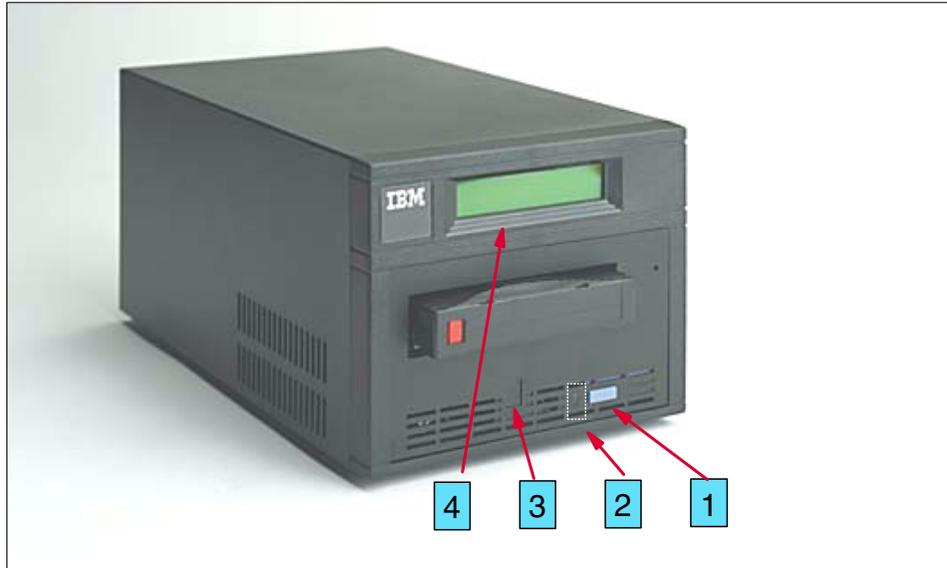

Figure 4-3 Front view of the IBM 3580 tape drive
The status light (labeled 2 in Figure 4-3 on page 90) provides information about the state of the IBM 3580 tape drive. The light can be green or amber, and, when lit, solid or flashing. These are the possible conditions of the status light and an explanation of what each condition means:
- ▶ Off: The IBM 3580 tape drive has no power, or is powered off, or if C displays simultaneously in the single-character display (see label 3 in Figure 4-3 on page 90), it needs cleaning.
The message display (labeled 4 in Figure 4-3 on page 90) is a liquid crystal display (LCD) that provides information about the status of the tape drive and error conditions.
The IBM 3580 tape drive features a light-emitting diode (LED) display (labeled 3 in Figure 4-3 on page 90 below). The LED presents a single-character code for:
The unload push button (labeled 1 in Figure 4-3) enables you to perform several functions. You can:
The IBM 3580 needs cleaning when the IBM 3580 tape drive status light (label 2 in Figure 4-3 on page 90) is OFF and C displays simultaneously in the single-character display (label 3 in Figure 4-3 on page 90). This is the only occasion when a cleaning cartridge should be used. For normal operation, the integrated cleaning mechanism ensures that the head remains clean.